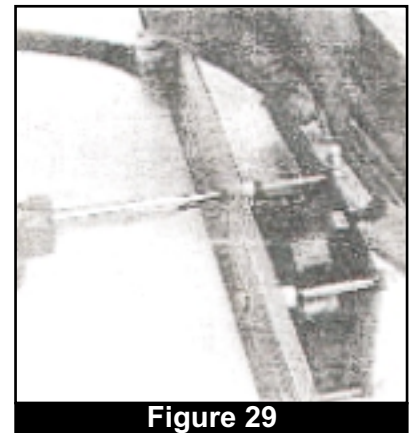

Figure 29
5. Remove the fan blower motor assembly cover (on the left side of module as you are facing the front panel) by removing the two front and two rear screws with a medium (6") flathead screwdriver. (Fig. 29)